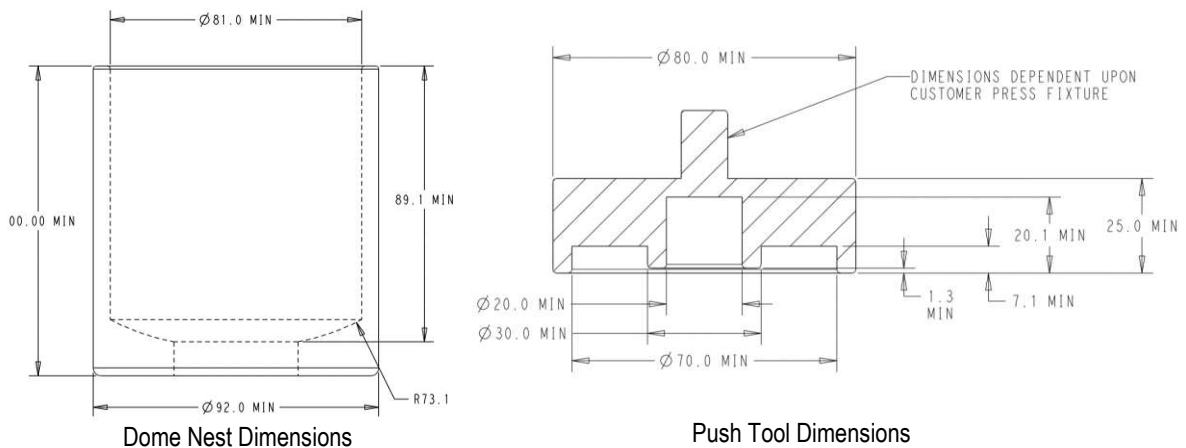

Figure 3b
- B. Press the cover onto the base ensuring that the cover is aligned squarely to the base and the base is solidly supported. Reference figures 3b and 3c.